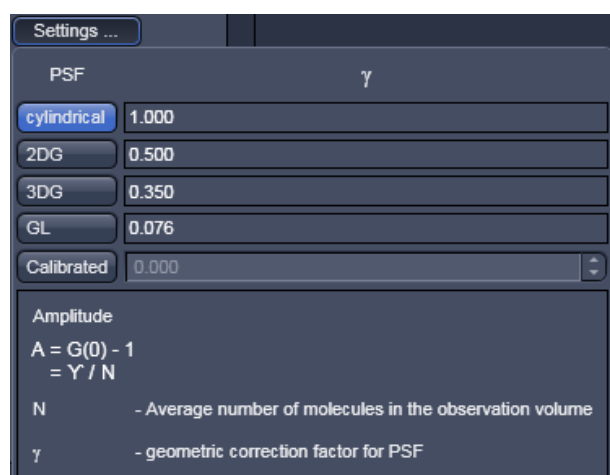

Fig. 253 Amplitude Settings panel
- You can set a value for the geometric factor γ , which describes the point-spread function (Fig. 253).
- By pressing the **cylindrical**, **2DG**, **3DG** and **GL** buttons you can select a cylindrical, 2 dimensional Gaussian, 3 dimensional Gaussian (3DG) and Gaussian-Lorentzian (GL) PSF, respectively. If you press the Calibrate button, you can type in a user defined number in selection box or use the arrows to set a value.